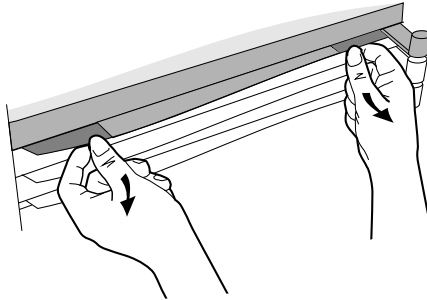
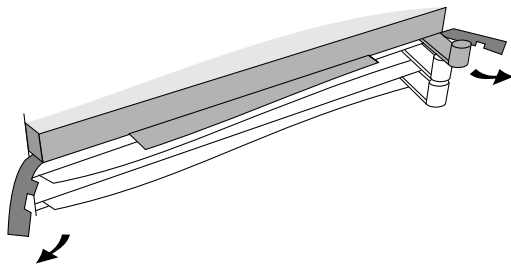

Figure 2. Unlocking Routing Engine
Figure 3. Disengaging Routing Engine
5. Press down slightly on the insides of both locks on the routing engine bezel (see figure 2), then swing them outward until the routing engine disengages (see figure 3).